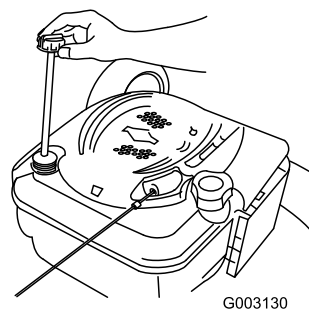

Figure 28
2. Retirez la jauge (Figure 28).